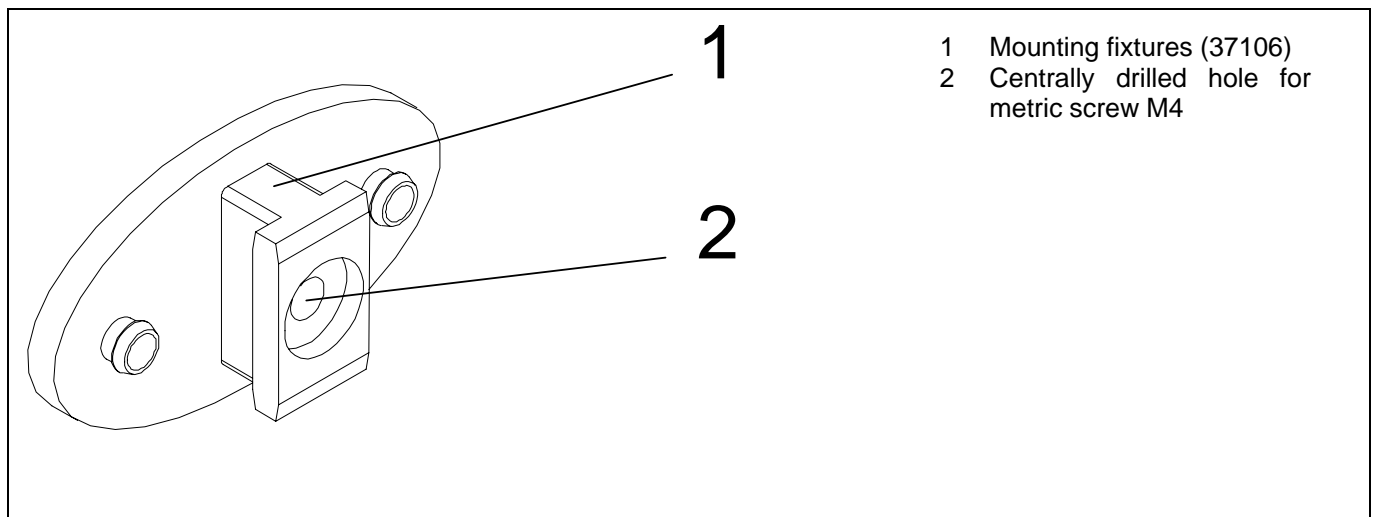

Figure 10: Mounting fixture for MELAdem®40
4. Use the centrally drilled holes in the mounting fixtures (see Fig. 10) to fasten the metric screws (M4, 20 mm) from the inside with tooth lock washers and nuts.